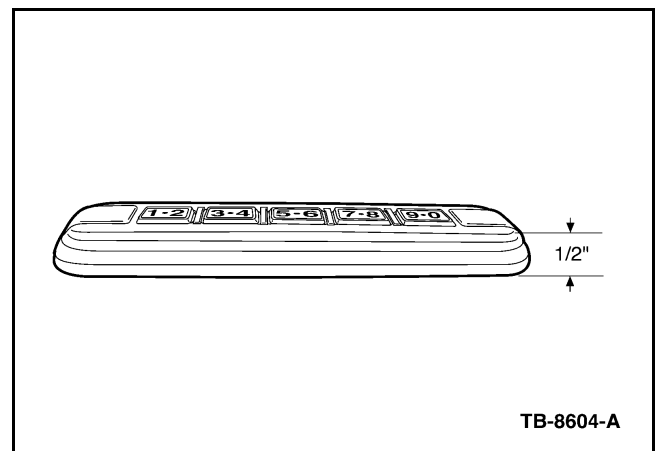

Figure 1 - Article 06-15-8
2. Dealer installed GFA RF keypads are adhesive backed and protrude approximately 1/2" (13 mm) from the surface of the vehicle and there are no specific diagnostics available in the WSM (Figure 1).